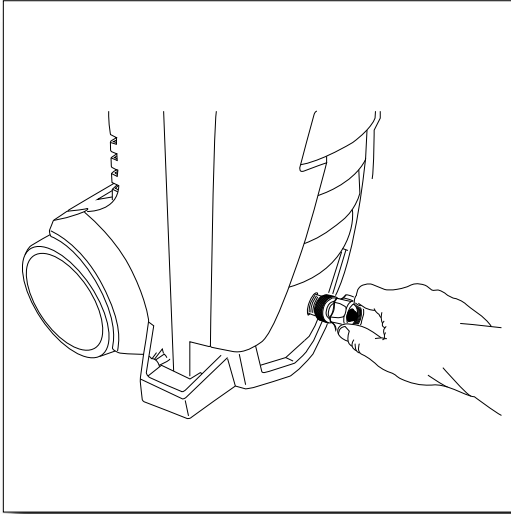

Fig. 15
- Attach the “silver” collar directly to the power washer water inlet and hand tighten. **(Fig. 15)**